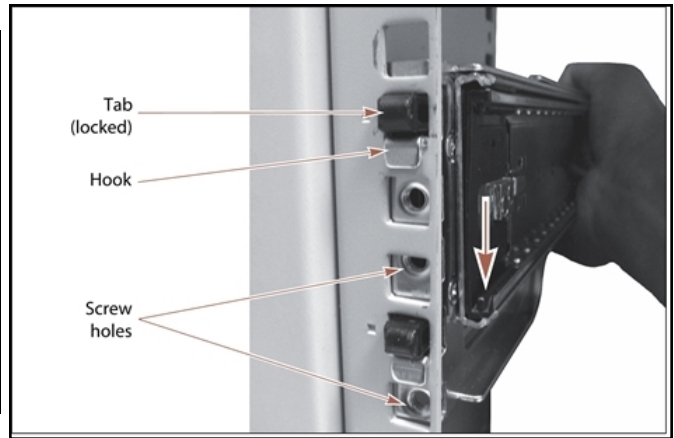

Figure 25 Press the rail down to lock it into place.
- a. Install two outer rail screws (4) and washers (5) in the holes above and below the bottom mounting hook in the front mounting bracket to secure the rail to the front post (see Figure 25).
- b. Install two screws (4) and washers (5) in the upper and lower holes to secure the back of the outer rail to the rear post.